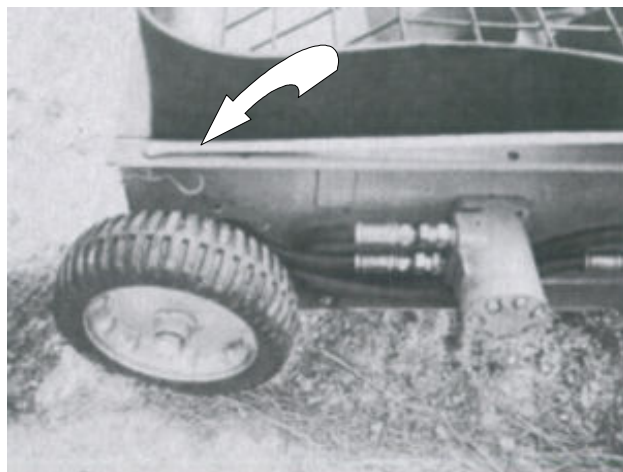

Fig. 14 Store Handle
13. When the truck is unloaded and PTO is shut off, move the swing hopper out of the way and store the handle. See **Fig. 14**.